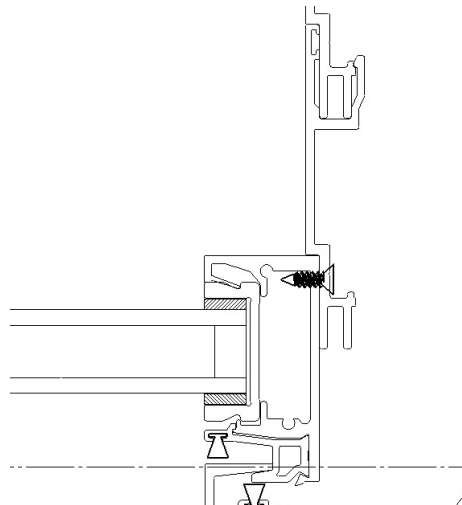

Figure 12
14. Attach the packet close out panel(s) to the pocket panel interlocker(s) using #10x1/2" PH Flat head screws. See **Figure 12**.